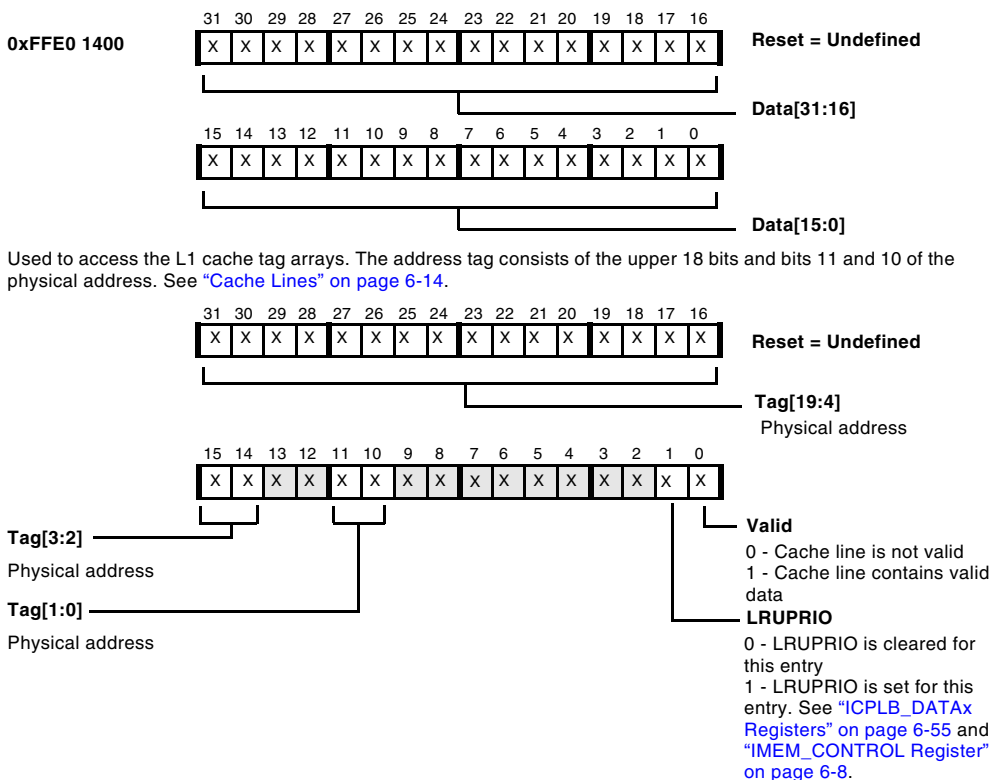

Figure 6-11. Instruction Test Data 0 Register
- Figure 6-11, “Instruction Test Data 0 Register,” on page 6-25